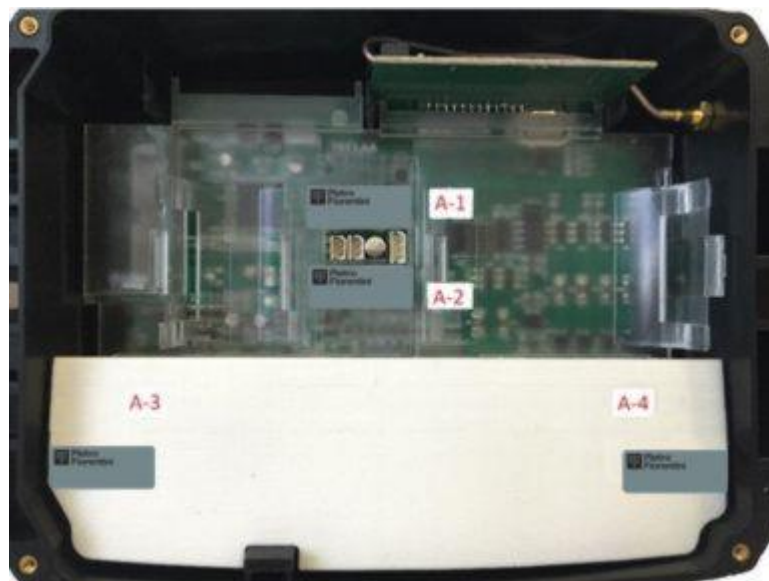

Figure 10: Type A sealings within the MODUS
- The programming button, which is pressed to reprogram some parameters of metrological significance (sealing A-1, figure 10)
- Motherboard and components (sealing A-2, figure 10)
- Clamps (sealing A-3 e A-4, figure 10)